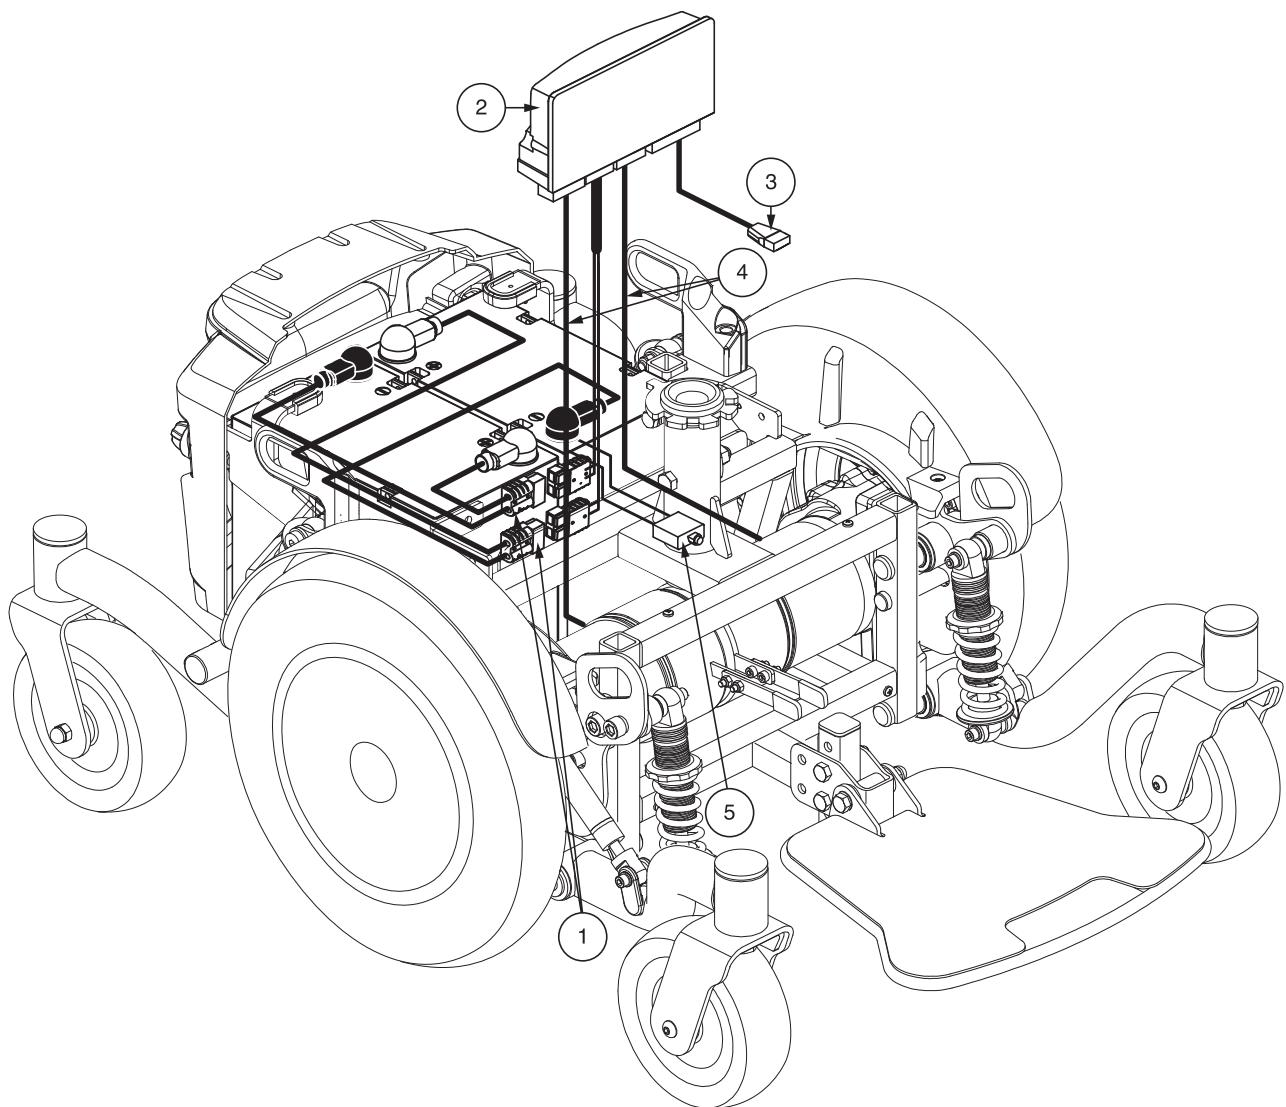

Figure 3. Jazzy EVO 614 Series Electrical Components
The electrical components are located on or inside the power base. The main circuit breaker is located on the front of the power base. The power module is located inside the power base. See figure 3.
4. Plug the controller harness into the connector on the power base. See figure 3.